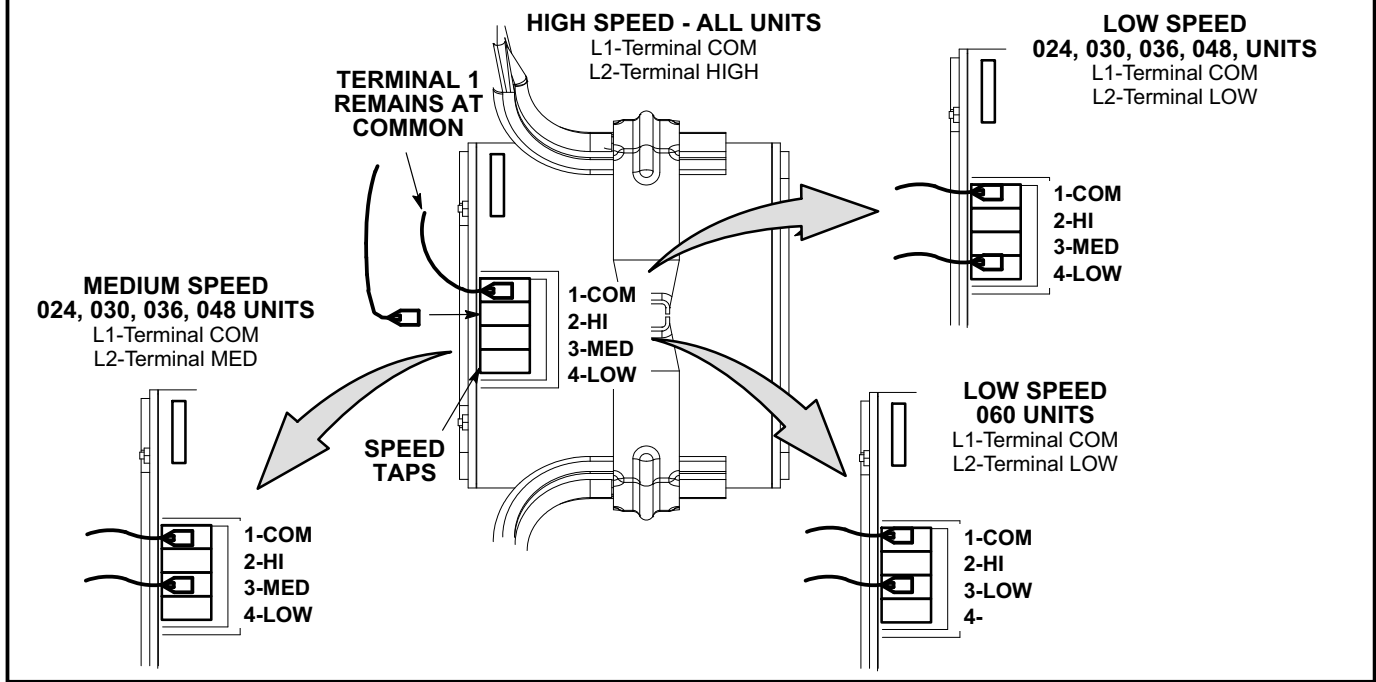
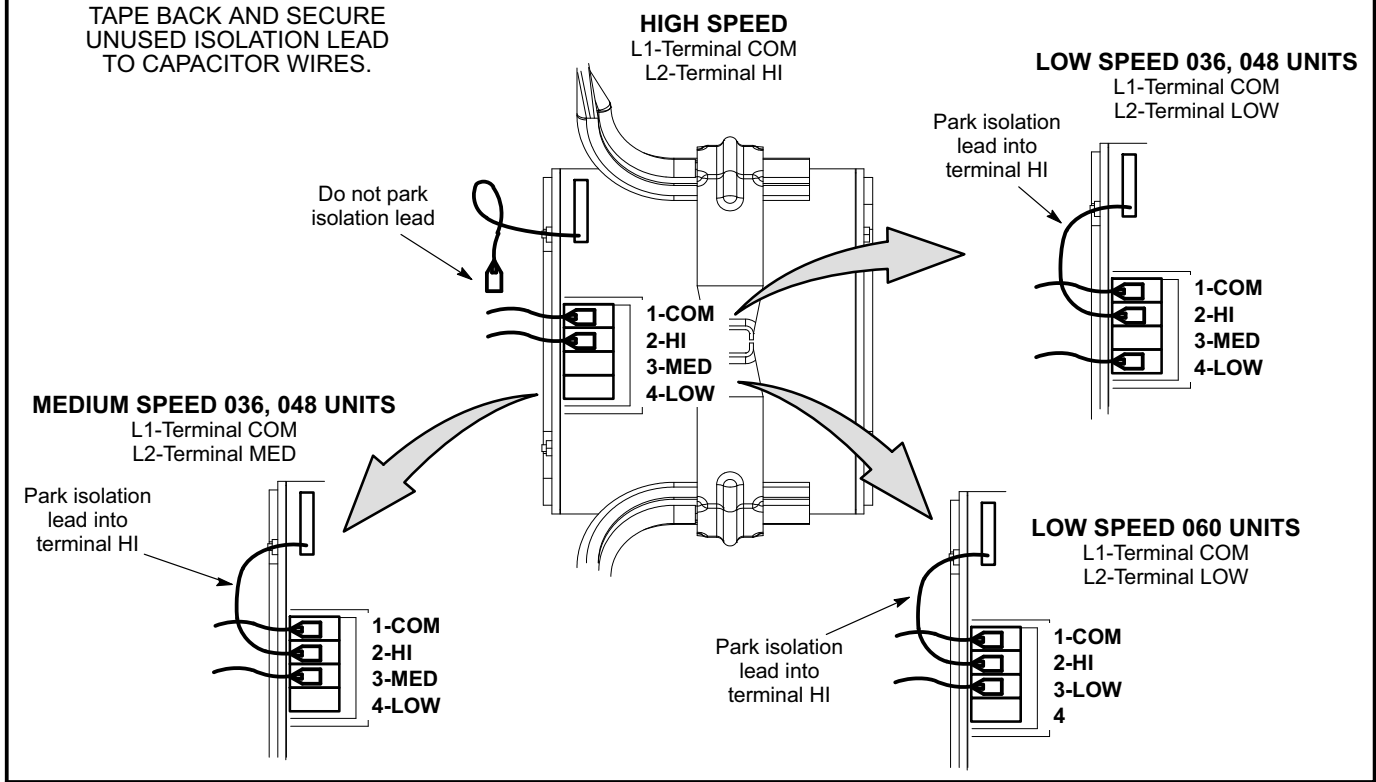

FIGURE 17
FIGURE 18
- 4- Use direct drive blower tables, the measured static pressure and the factory-set blower speed to determine CFM. If CFM is lower or higher than the design specified CFM, move the leads as shown in figure 17 for 208/230 volt units and figure 18 for 460/575 volt units.